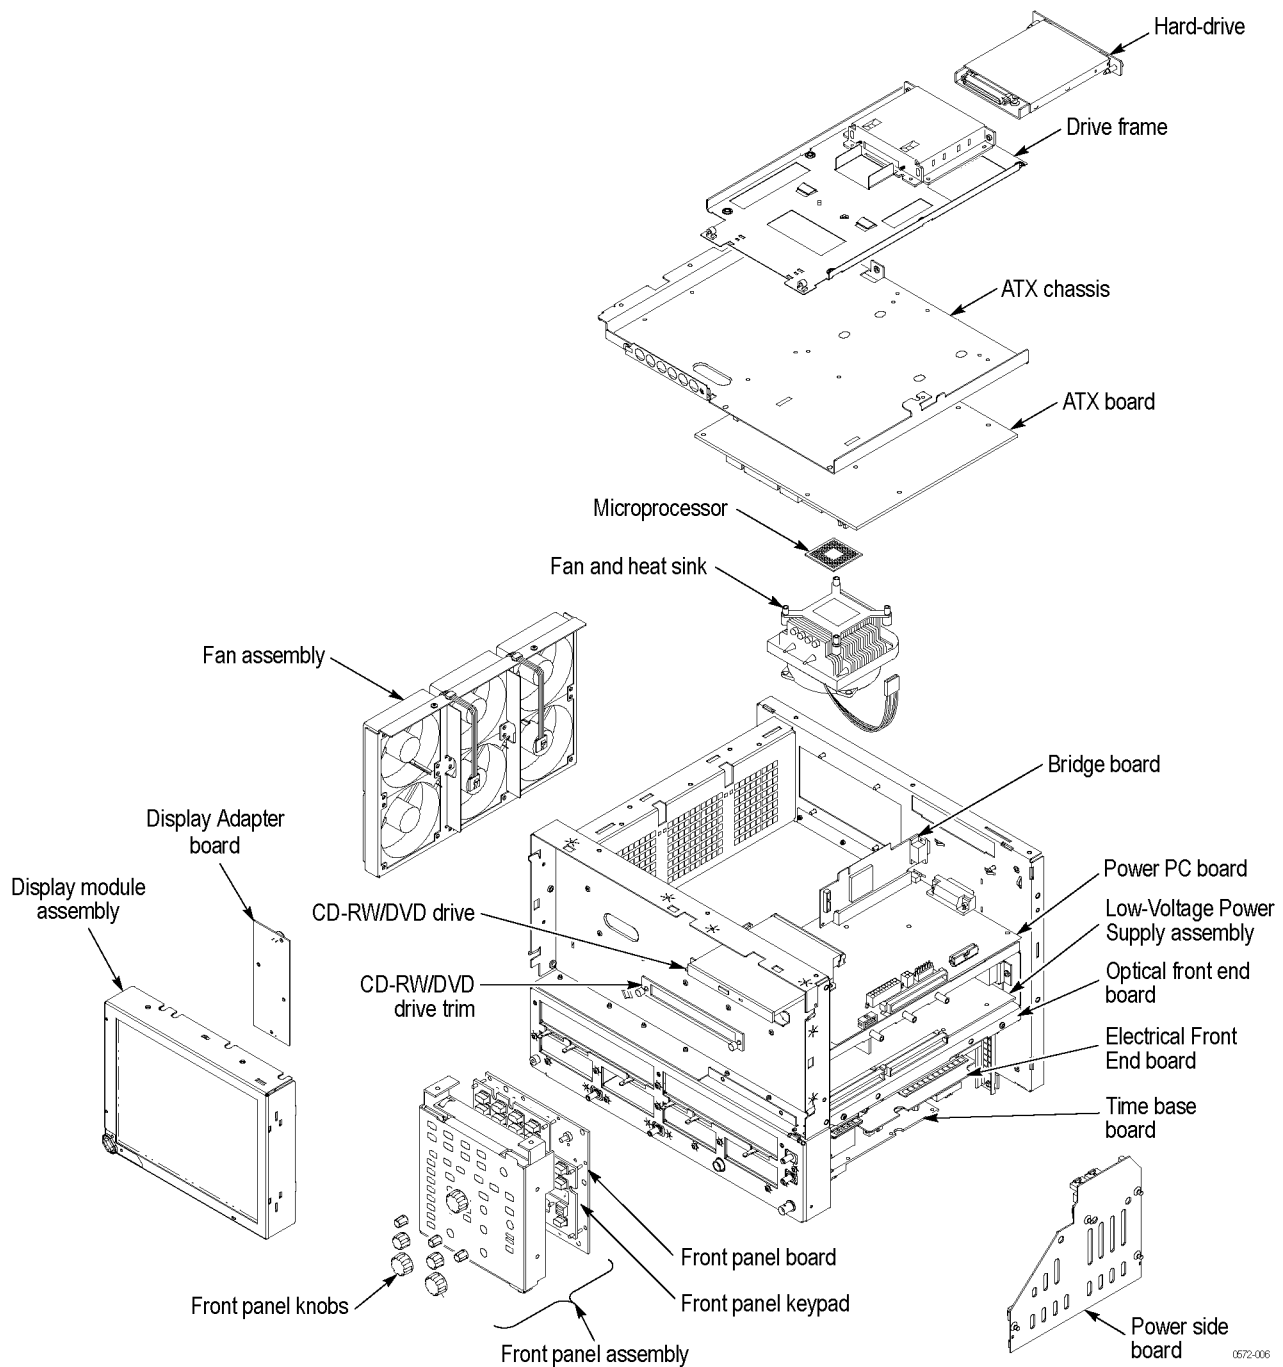

Figure 4: Internal assemblies
2. *To remove the Front-Panel assembly:* (See Figure 4 on page 31.)
2. *To remove the Front Panel circuit board:* (See Figure 4 on page 31.) (See Figure 22 on page 78.)
- c. Locate the hard disk drive assembly on the rear panel of the instrument. (See Figure 4 on page 31.)